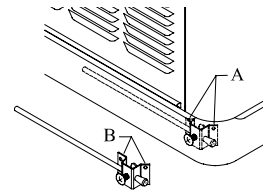

Fig. 1
- Remove two corner screws in the bottom pan (A-Fig 1).
- Place the house leg bracket in the corner of the bottom pan, using the two top holes in the bracket (B-Fig 1). Replace the two previously removed screws to hold the house leg bracket in place (As shown by dotted house leg bracket).